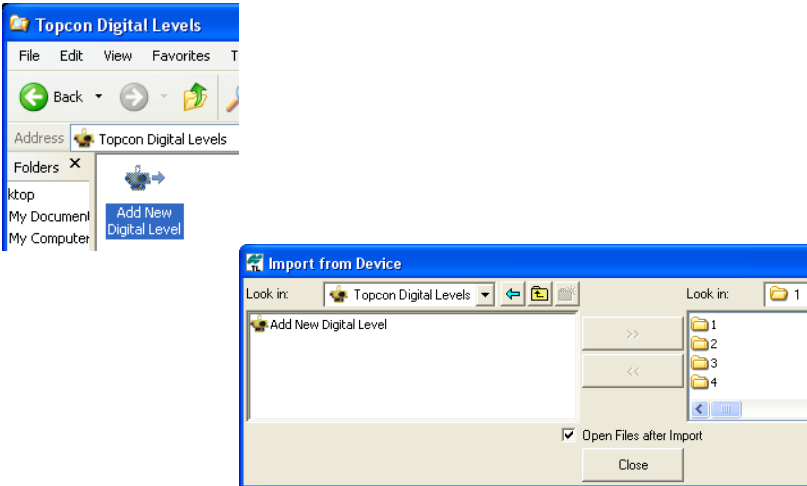

Figure 2-7. Add a New Topcon Digital Level
1. Navigate to the *Topcon Digital Level* directory (Figure 2-7).
2. Double-click **Add New Digital Level** (Figure 2-7).
1. Navigate to the *Sokkia Digital Level* directory (Figure 2-7).